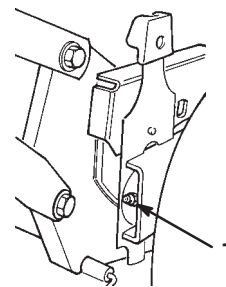

Figure 32
- Wipe the grease fittings with a clean rag (Fig. 32).
- Install a grease gun onto the fitting and gently apply 2 or 3 pumps of #2 multi-purpose lithium base grease (Fig. 32).